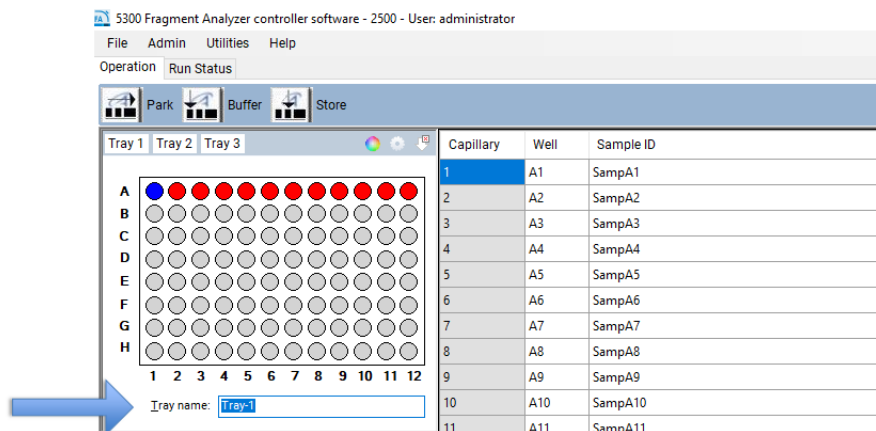

Figure 92 Highlight of the tray name
- 2 In the field **Tray name** of the **Operation** tab, highlight the tray name with the mouse cursor (Figure 92).